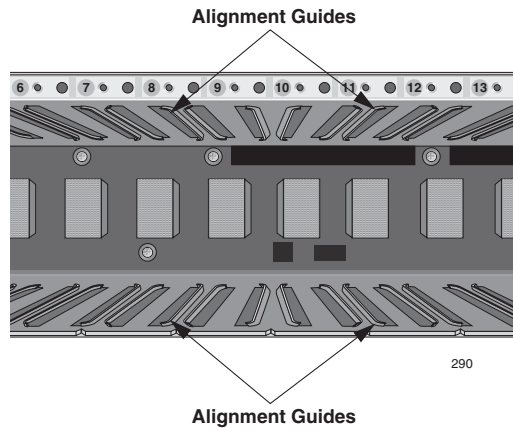

Figure 24. Location of the Alignment Guides
5. Locate the top and bottom alignment guides inside the line card slots, as shown in Figure 24.